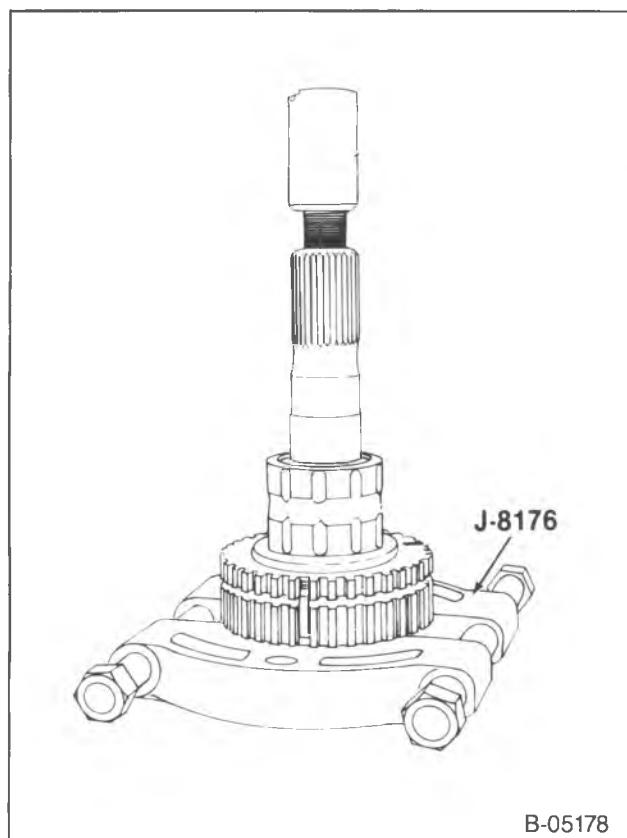

Figure 33—Removing the Mainshaft from the 1st and 2nd Speed Synchronizer Hub
- Support the hub on J-8176 and press the mainshaft out, (figure 33).